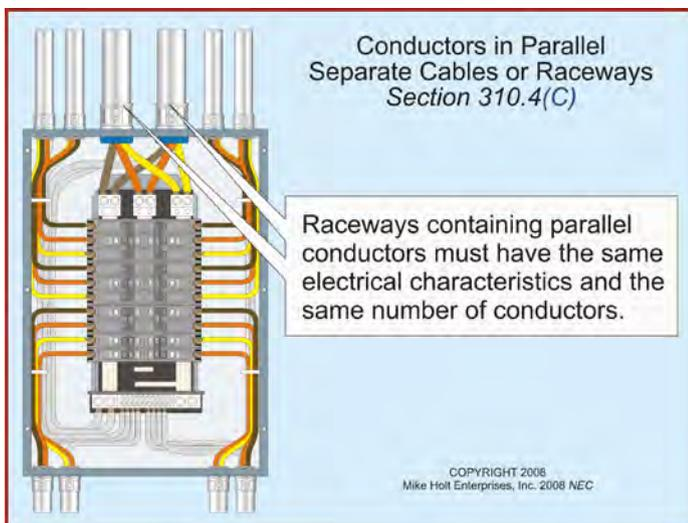

Figure 310-2
(C) Separate Raceways or Cables. Raceways or cables containing parallel conductors must have the same electrical characteristics and the same number of conductors. **Figure 310-2**